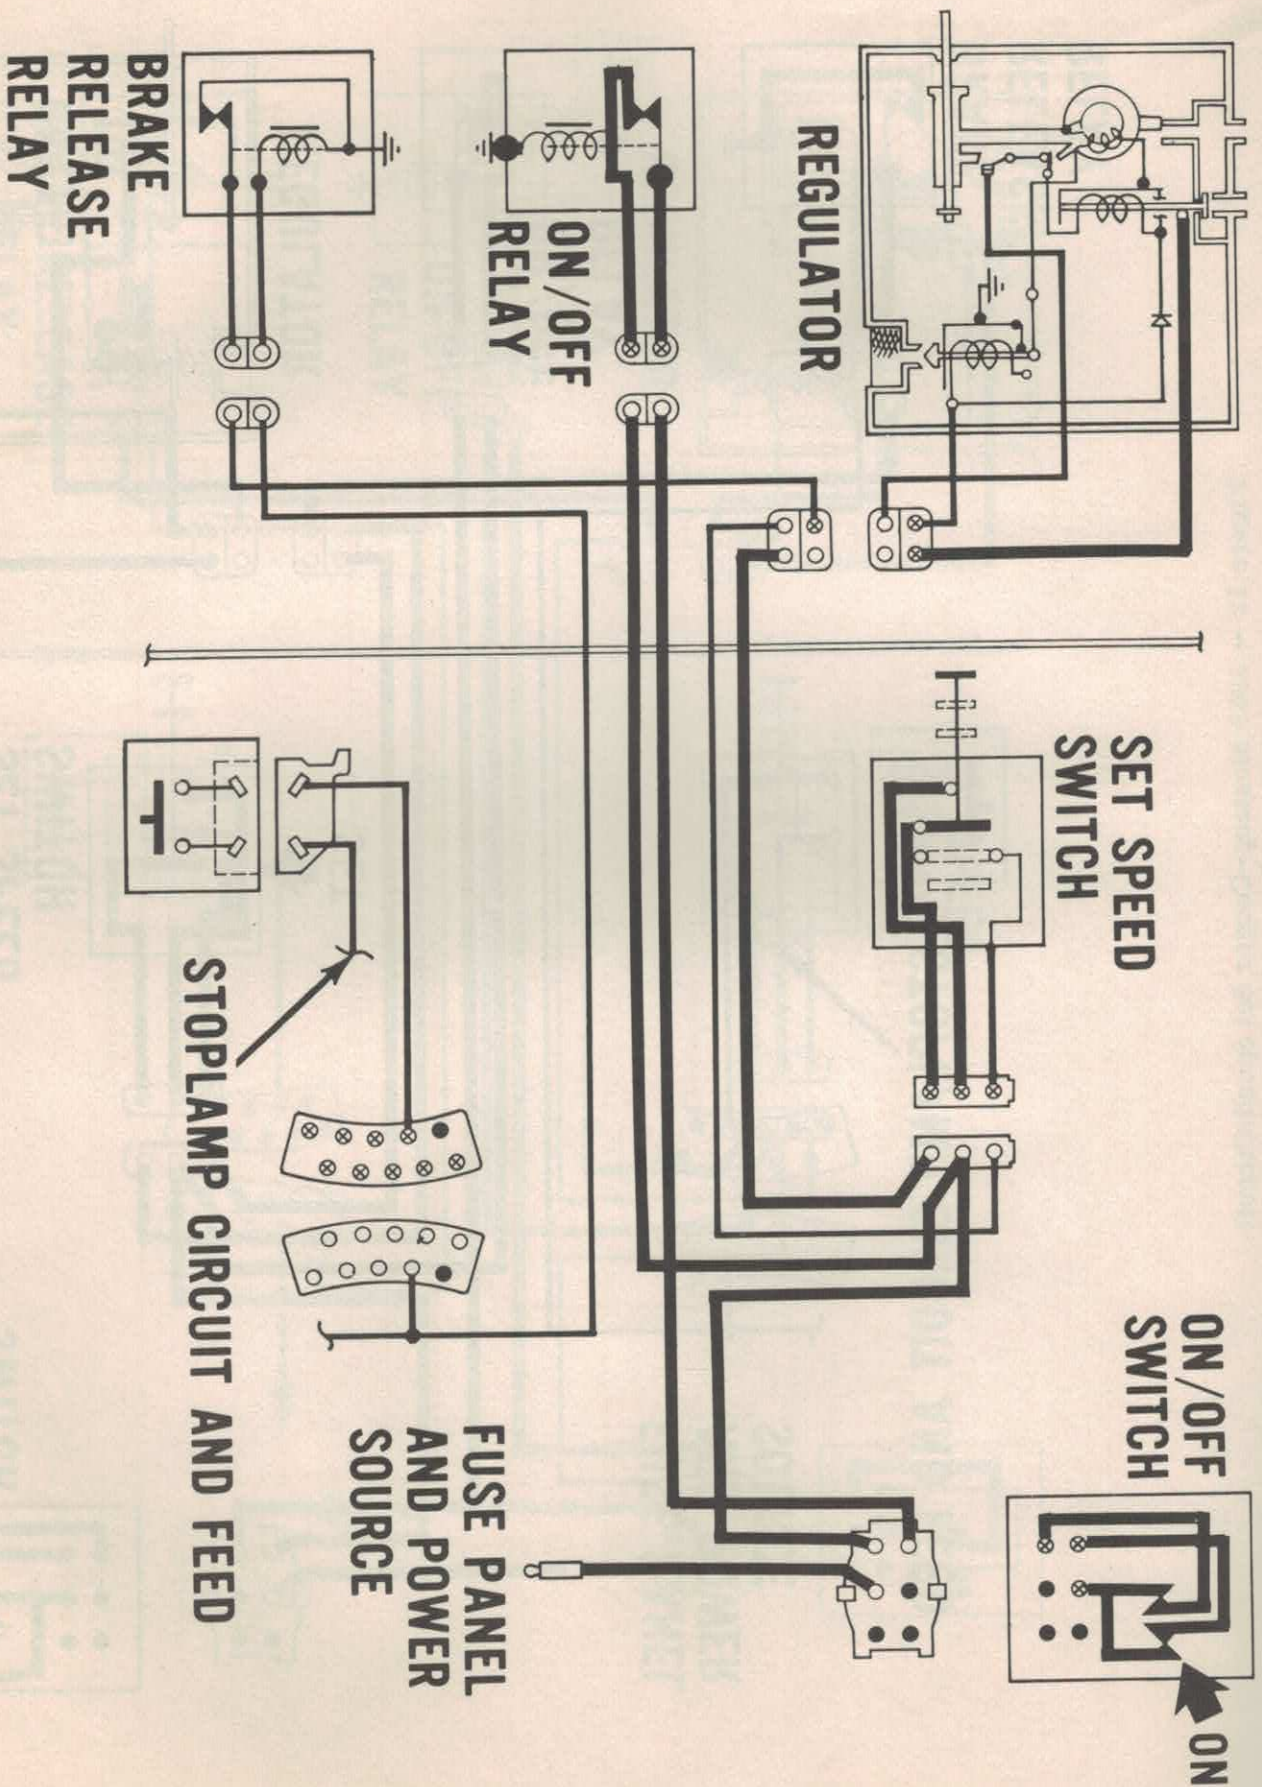

Figure 11 — 1969 Mustang-Cougar On Circuit
4. Using the workbook diagram Figure 11 as a reference, answer this question.